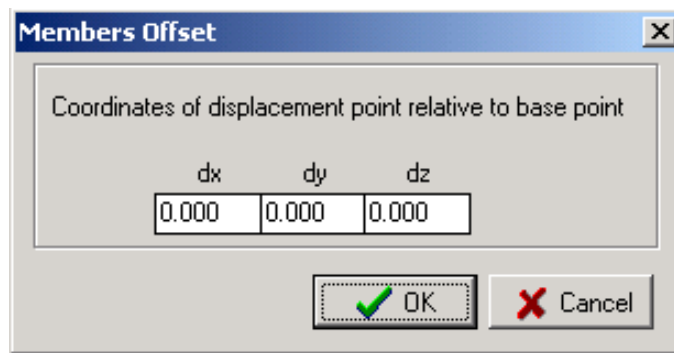

Figure 65 Members Offset (PASTE MEMBERS) dialogue box
2. Within the dialogue box (figure 65) that will appear, type the desirable values of any change of distance in the dx, dy and dz text-fields (either in one or in all of them). The programme will create a copy of the selected group of entities on a new workpane and in distance from the copy-point defined by the values in the dx, dy and dz text-fields.